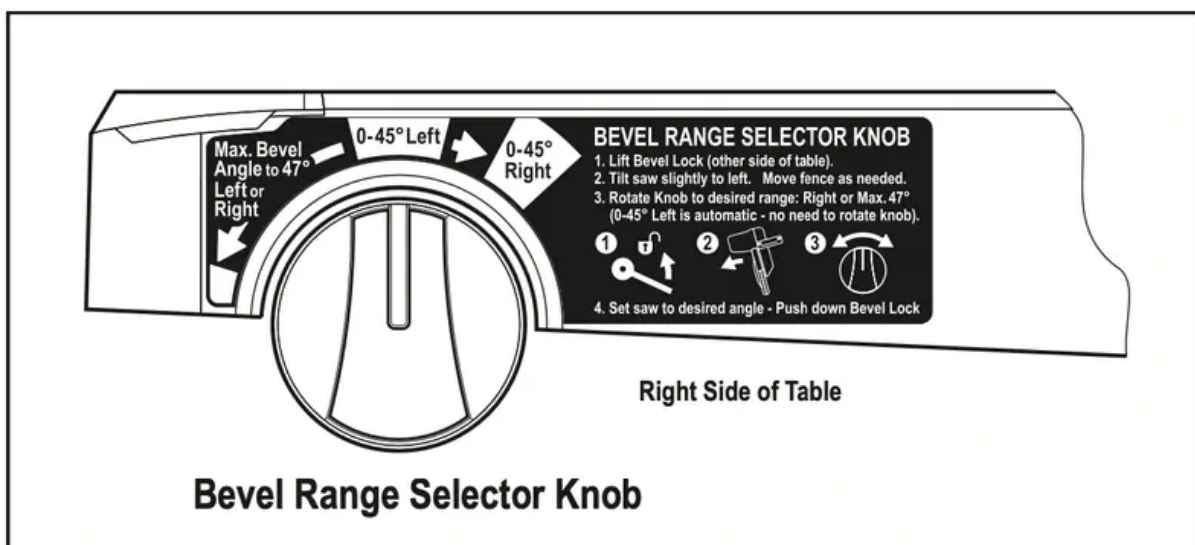

Figure 49. Bevel Range Selector Knob – Right Side of Table
Bevel range selector knob – This saw has a front control on the right side of the table arm. This is called the bevel range selector knob (item 41 – page 9). It is linked to stops and locking mechanisms in the rear which control the tool’s ability to quickly and accurately be positioned to make bevel cuts. There are positive stops at 0° (the important 45° left, vertical), and 45° right angles (see Figure 49).